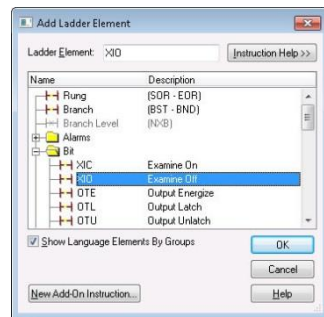

Figure 42: Adding an XIO Element
- Select the “XIO” element in the Bit folder. Refer to Figure 42.